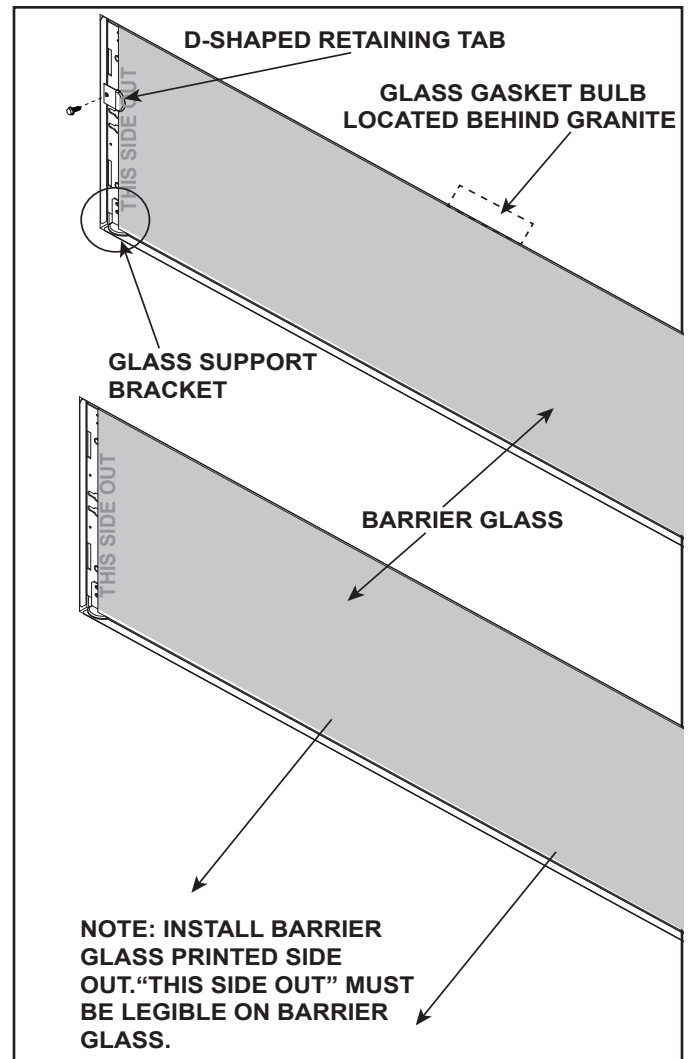

Figure 11.5 Barrier Glass - Black Granite Finish
3. The glass rests against the barrier glass support bracket. See Figure 11.5.
5. Rotate/tilt the bottom of the glass outward to remove. See Figure 11.5.
3. The glass rests against the barrier glass support bracket as shown in Figure 11.5.
4. Attach and tighten the D-shaped retaining tab. See Figure 11.5.